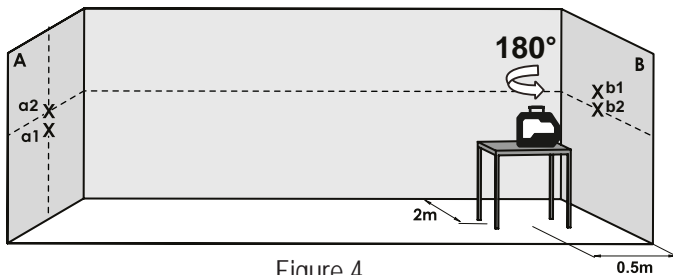

Figure 4
8. Turn the laser 180° towards wall **A**, and mark on the wall the center of the cross beams as **a2** (see figure 4).